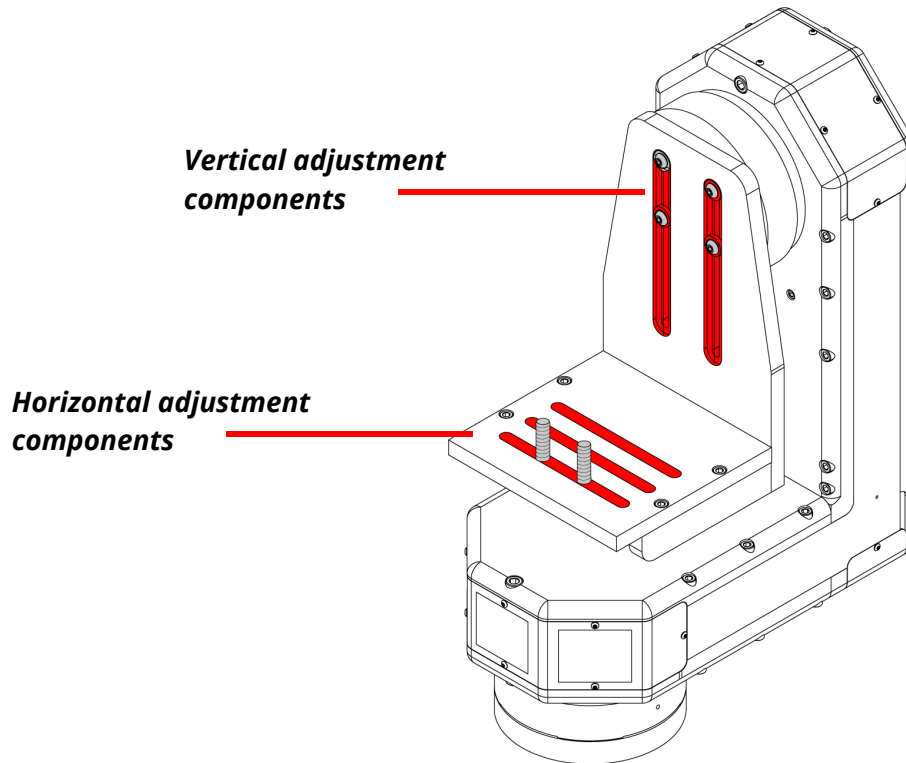

Figure 3 Payload balancing adjustment components
The head and camera cradle are designed to make balancing easy. **Figure 3** and the following lists identify the payload balancing adjustment features:
4. Use the horizontal adjustment components (**Figure 3**) to move the payload away from the direction it tilted, and then test again.
4. Use the vertical adjustment components (**Figure 3**) to raise or lower the payload as required, and then test again.